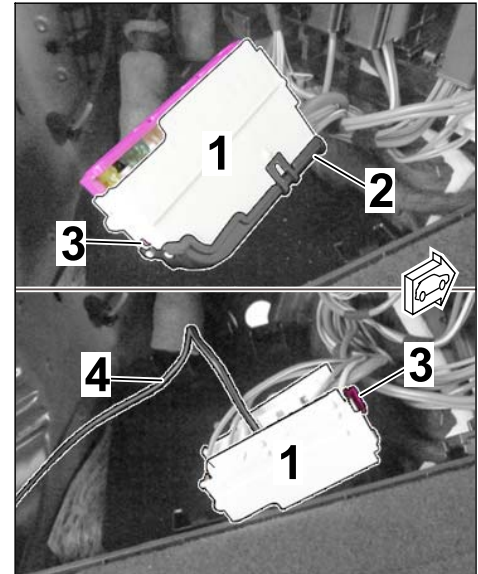

Figure 10
- 2.3.1 Remove fuse holder H (strip B – white) from the fuse box in the luggage compartment (⇒ *Workshop Manual '978409 Loosening and securing fuse box in the luggage compartment'* ⇒ *Figure 10-top-*).
- 2.3.2 Release fuse holder H (strip B – white) and connect the lines (RD/GN and RD/YE) as follows (⇒ *Figure 10-bottom-*):